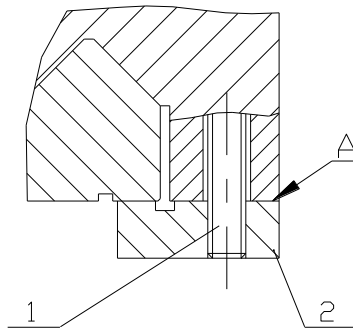
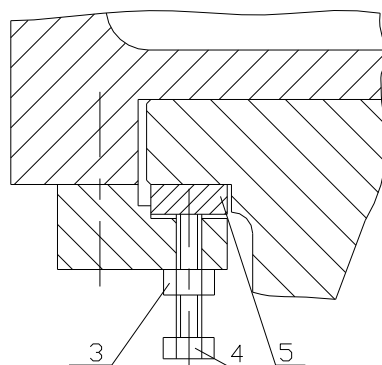

Fig.6-7A. Adjustment the clearance from “V” slide way side
Fig.6-7B. Adjustment the clearance from flat slide way side
6.2.5. ADJUSTMENT THE CLEARANCE BETWEEN BED SLIDEWAY AND CARRIAGE BASE PLATE (See Fig.6-7A and Fig.6-7B)
ADJUSTMENT THE CLEARANCE FROM “V” SLIDE WAY SIDE (See Fig.6-7A)
ADJUSTMENT THE CLEARANCE FROM “FLAT SLIDE WAY” SIDE (See Fig.6-7B)